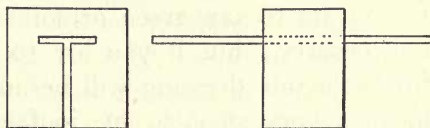

FIG. 169.—A SAW JOINTER.
**Jointing.** — Always joint the saw before setting or filing it. Jointing means filing the points down even. A good jointer is shown in Fig. 169.